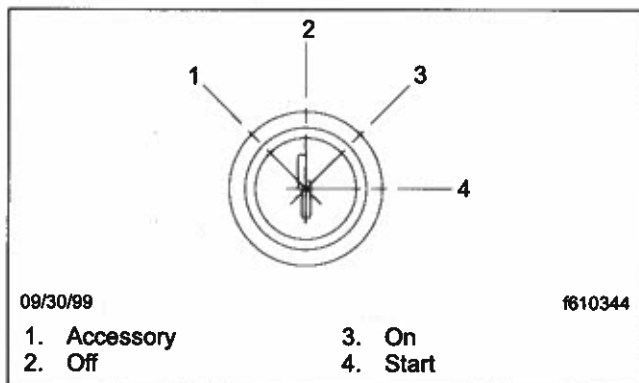

Fig. 7.5, Ignition Switch Positions
1. Turn the ignition switch to the on position (Fig. 7.5). All the electronic gauges on the instrument and control panel complete a full sweep of their dials, the warning and indicator lights light up, and the buzzer sounds for three seconds.
1. Turn the ignition switch to the on position (Fig. 7.5). The CHECK ENGINE indicator comes on for five seconds. The INTAKE HEATER indicator comes on for a minimum of two seconds, regardless of coolant temperature.
1. Turn the ignition switch to the on position (Fig. 7.5). The CHECK ENGINE indicator will come on. The INTAKE HEATER indicator comes on for a minimum of two seconds, regardless of coolant temperature. Leave the ignition switch on until the CHECK ENGINE indicator goes out.
The intake air preheater is activated by turning the ignition switch to the on position (Fig. 7.5). If the engine is at normal temperature, the INTAKE HEATER indicator goes out after two seconds.
The intake air preheater is activated by turning the ignition switch to the on position (**Fig. 7.5**). If the engine is at normal temperature, the INTAKE HEATER indicator goes out after two seconds.
Turn the ignition switch to the on position (**Fig. 7.5**). If the engine is at normal temperature, the INTAKE HEATER indicator goes out after two seconds.